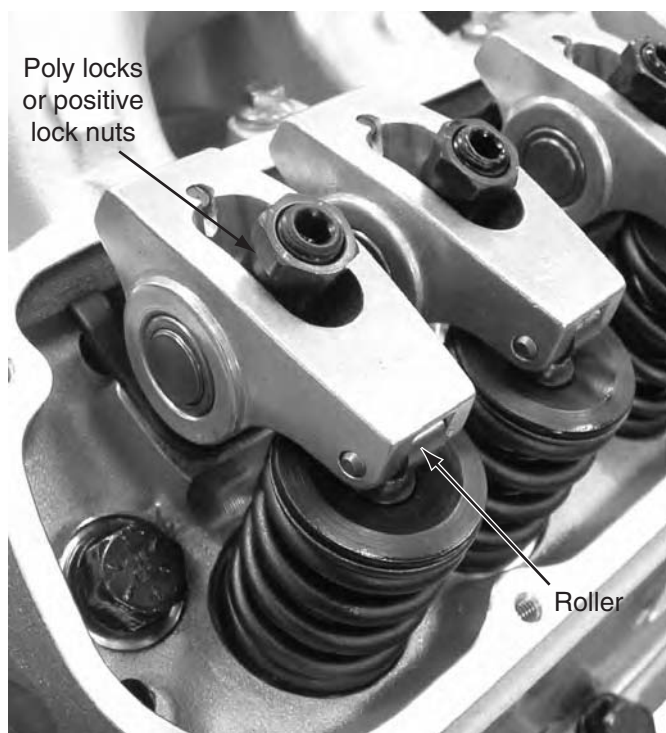

FIGURE 10.15 Roller tip rocker arms used with a high lift cam help reduce the friction required to rotate the engine. (Courtesy of Tim Gilles)
- More lift can cause wear to valve guides, lifters, and rocker arms. To prevent excess wear, bronze guides are recommended with high lift cams as well as rocker arms with roller tips (**Figure 10.15**).